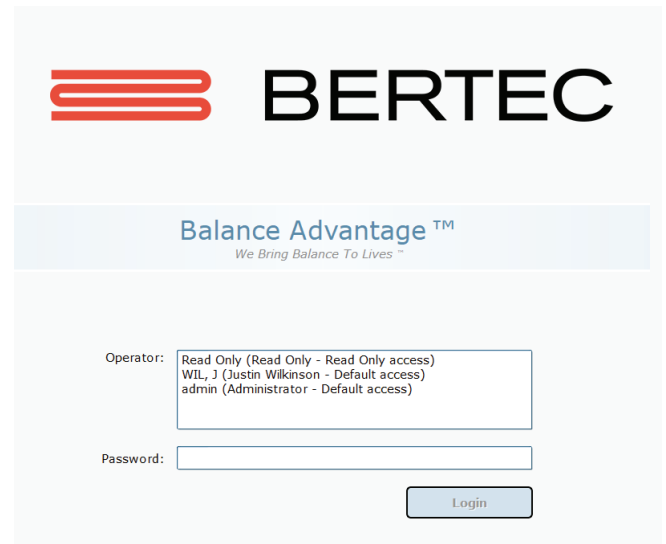

Figure 6: Login
1. Open Bertec® Balance Advantage®. Arrive at the login screen, shown in Figure 6.